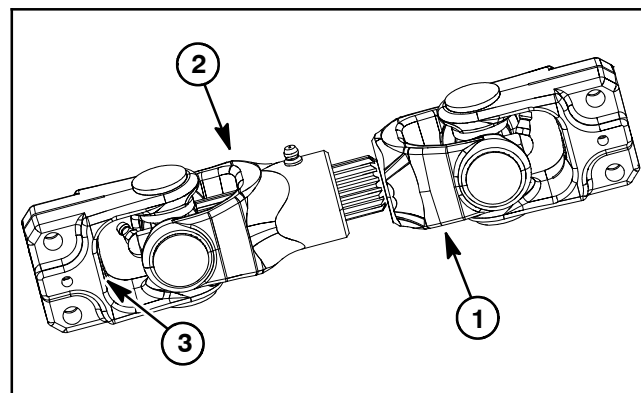

Figure 63
2. Position drive shaft assembly to hydraulic pump and motor/generator shafts. The drive shaft male yoke should be installed onto motor/generator shaft (Fig. 63). Position female yoke fully onto pump shaft so the shaft end is flush with the inside of the yoke flange.
3. Secure drive shaft yokes to pump and motor/generator shafts with two (2) cap screws (item 5) and flange nuts (item 9).
5. Secure intake shrouds (items 6 and 7) and brush seals (item 8) to machine.
A. Make sure that four (4) compression limiter spacers are placed in the mounting holes in the upper intake shroud.
C. Secure upper and lower intake shrouds with four (4) flange head screws (item 4) and flange nuts (item 5).
6. Carefully slide intake hose (item 2) onto upper shroud and secure in place with hose clamp.
7. Install hood saddle (item 1) onto frame brackets. Lower and secure hood and operator seat.